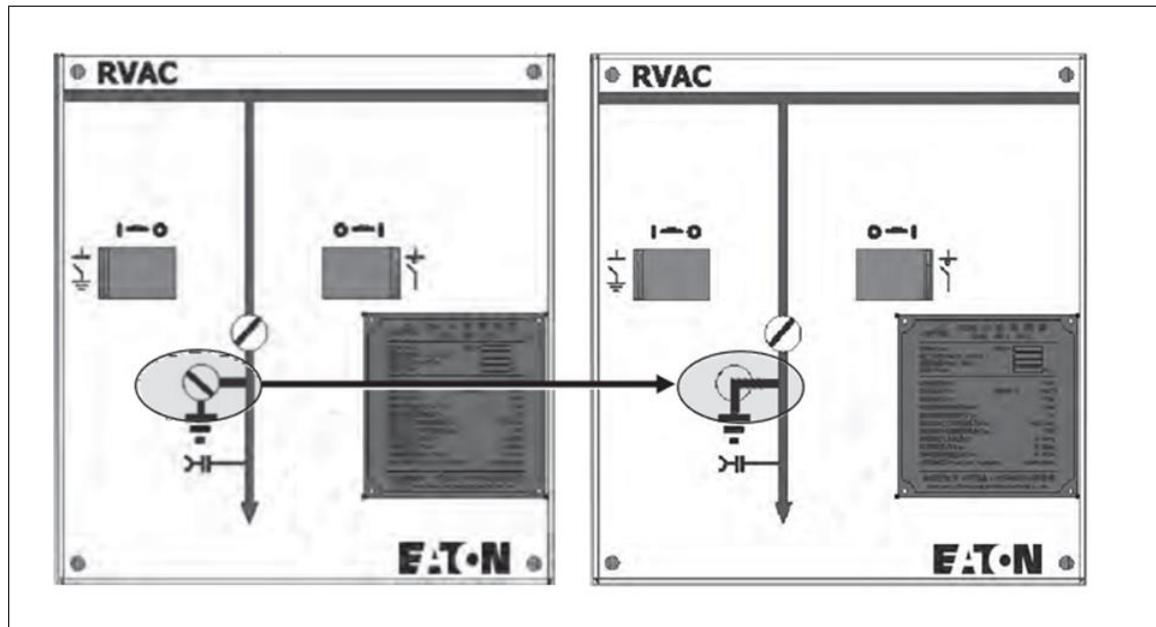

Figure 14.1 Ground switch status indication
- a. Operate and confirm the ground switch is in the closed state (see **Figure 14.1**);